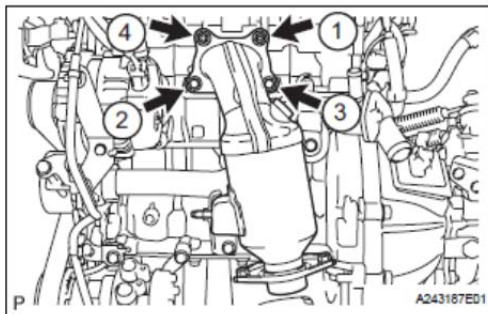

Figure 29
Refer to Figure 29:
23. Remove the exhaust pipe assembly (note: Figure 29 shows the stock assembly but the OHT modified part OHTIVB-17400-1 should be used), and place it securely on the engine stand.